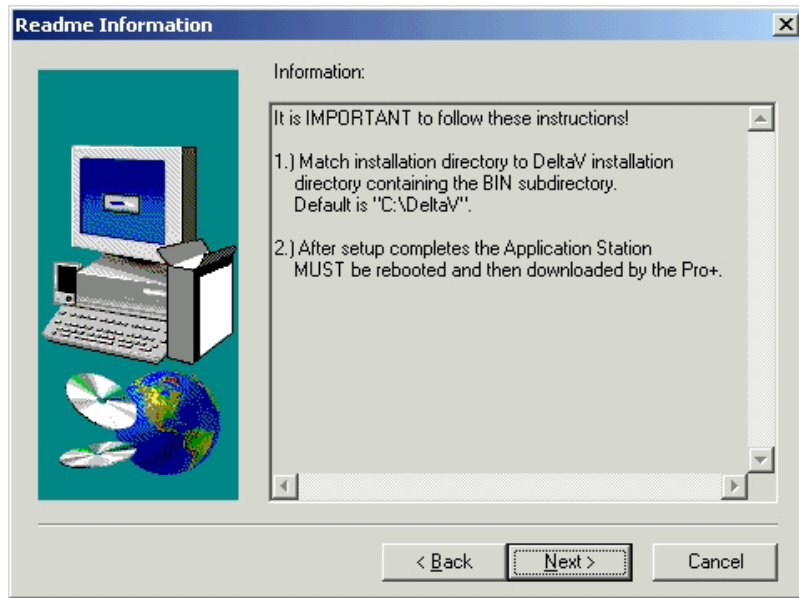

Fig 3.1.2 – Important instructions
4. The setup program will perform the install automatically. Answer any prompts as directed. Please note the important information screen (see fig 3.1.2).